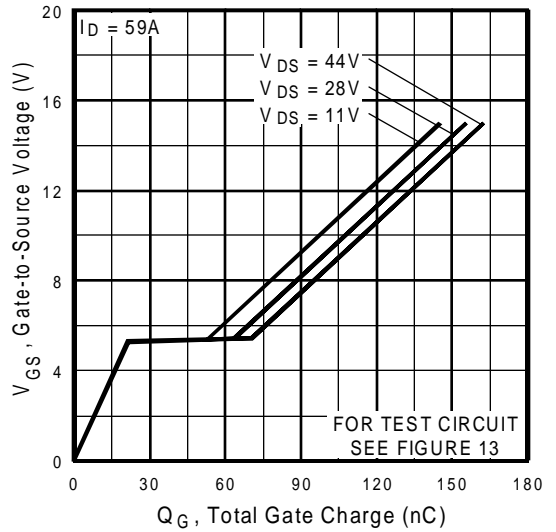

Fig 6. Typical Gate Charge Vs. Gate-to-Source Voltage
| Q_{gd} | Gate-to-Drain ("Miller") Charge | — | — | 74 | | $V_{GS} = 10V$, See Fig. 6 and 13 ④ ⑤ |